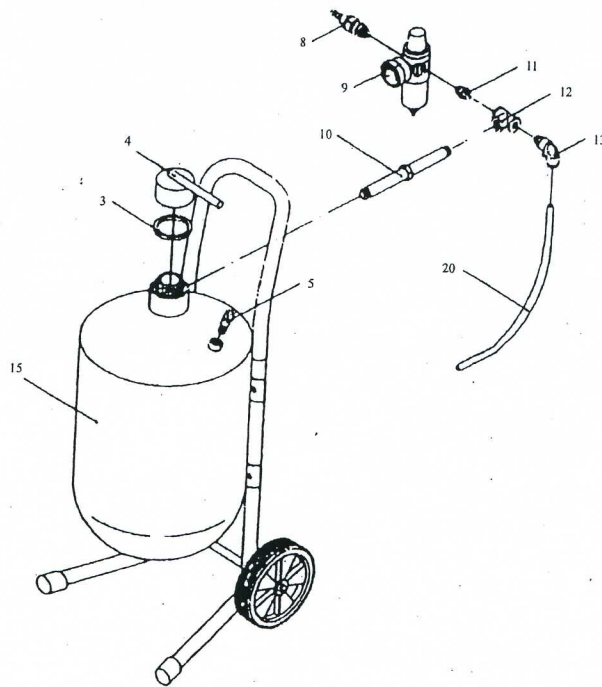

FIGURE 3
Air Pressure Adjuster and Safety Valve Assembly (Refer to Figure 3)
Step 1: Get out all required parts as shown in Figure 3.